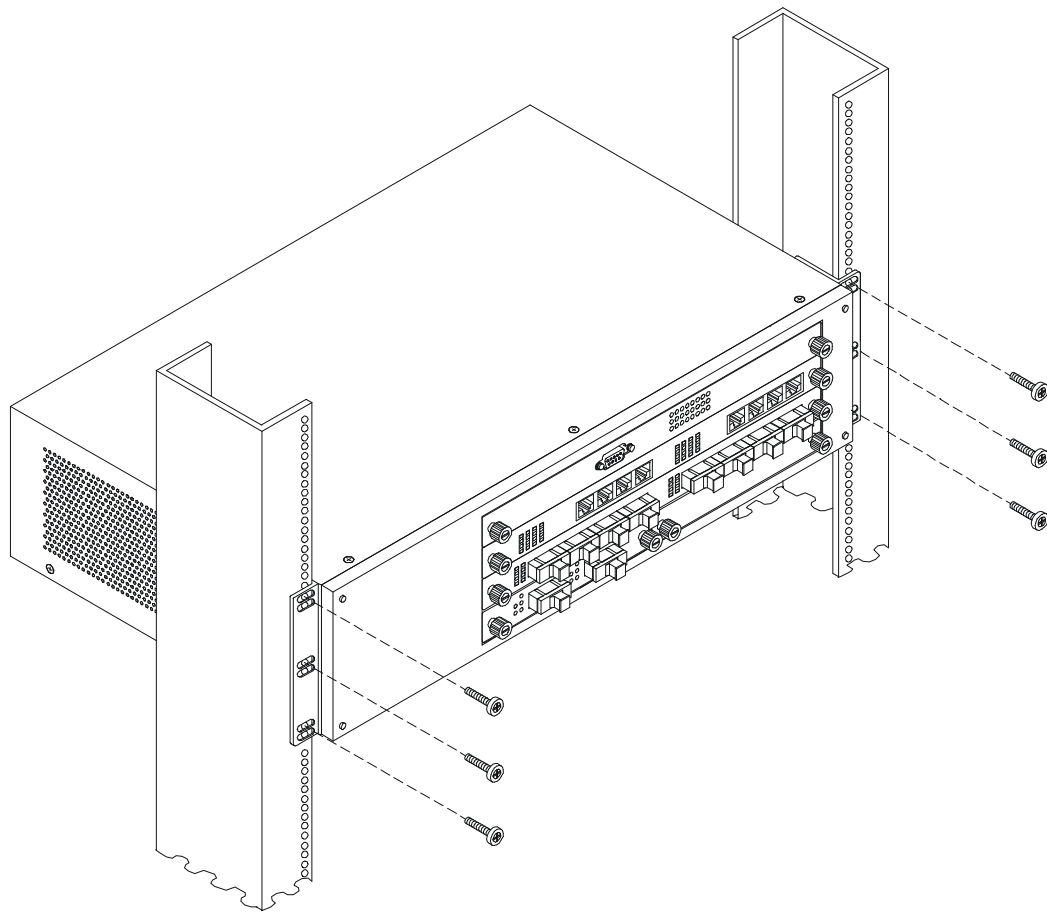

Figure 8: Insert into Rack
2. Slide the DES-5016 into the rack and use the screws provided to secure the DES-5016 to the rack. See Figure 8.